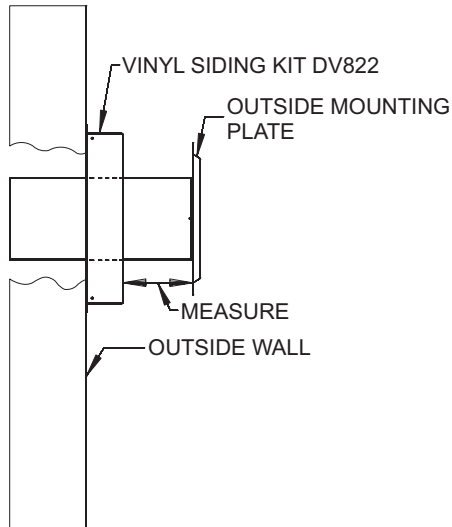

Figure 48
5. Attach the inlet tube to the outside mounting plate. Align tinnerman clips on the tabs of the air inlet tube to the holes on outside mounting plate, and fix with (2) #10 x 1/2" screws.
6. With the vinyl siding kit installed to wall (if necessary), insert the 6 5/8" (168 mm) diameter tube with outside mounting plate attached through hole in wall. Connect to collar on fireplace or rigid vent system. Measure between wall or vent cap extension and outside mounting plate (Figures 48 and 49).